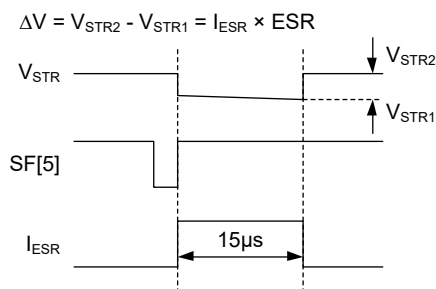

Figure 6. ESR Measurement Process
5. If the difference is higher than the programmed ESR detection threshold set by SF[3:2] bits, an ESR error is identified and the LSC[0] is set to 1. See Figure 6 for the ESR detection process.